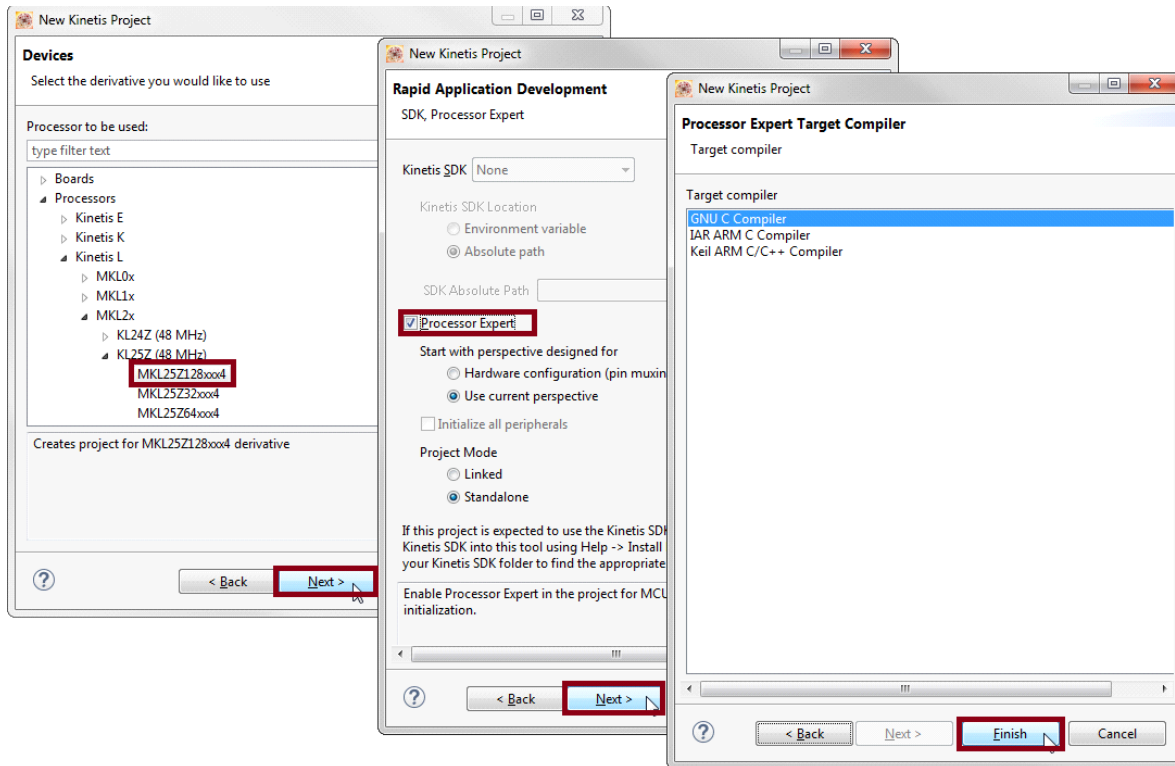

Figure 13. Selecting a Device, the Rapid Application Development Options and Compiler
2. In the **Devices** dialog box, select the MCU class for the appropriate MCU. In Figure 13 MKL25Z128 has been selected. Then click **Next**.
4. In the **Processor Expert Target Compiler** dialog box, select a compiler to use (GNU C Compiler in Figure 13) and click **Finish**.